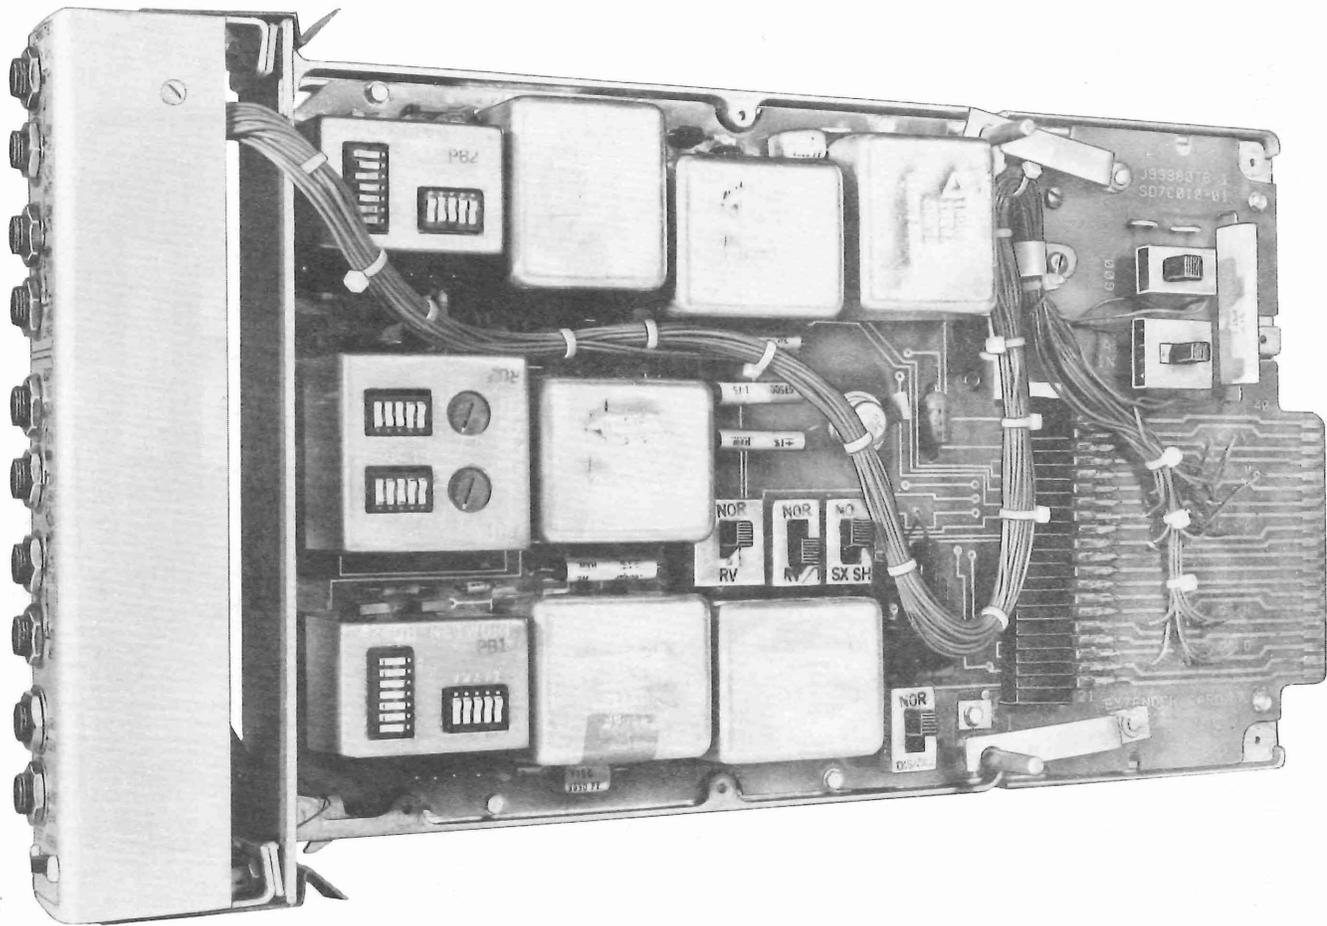

Fig. 4—J99380TB Test Extender Installed on MFT Transmission Unit
2.09 In use, the MFT transmission unit is plugged into the test connector; the jack assembly of the test extender is mounted on the face of the transmission unit as shown in Fig. 4; and the combined unit is plugged into the MFT transmission slot. With the test extender installed, the transmission unit is extended out of the shelf far enough to gain access to the control switches and potentiometers for adjustments of gain and equalization.